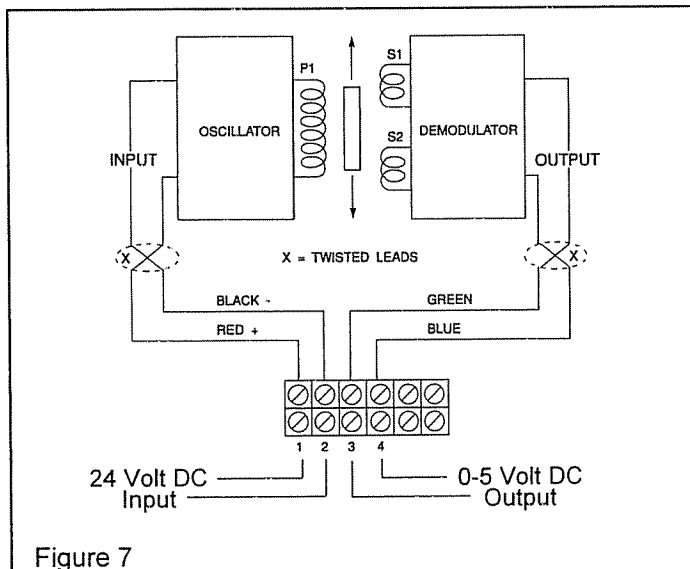

Figure 7
4. Observing correct polarity, connect the input power leads to bottom terminals 1 and 2 on the terminal board. (For correct polarity refer to Figure 7.)
2. Connect a voltmeter to terminals 3 and 4 at the top of the terminal board. (See Figure 7.)